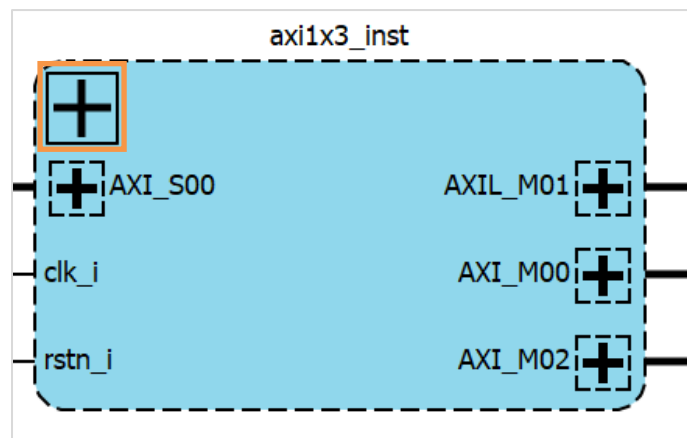
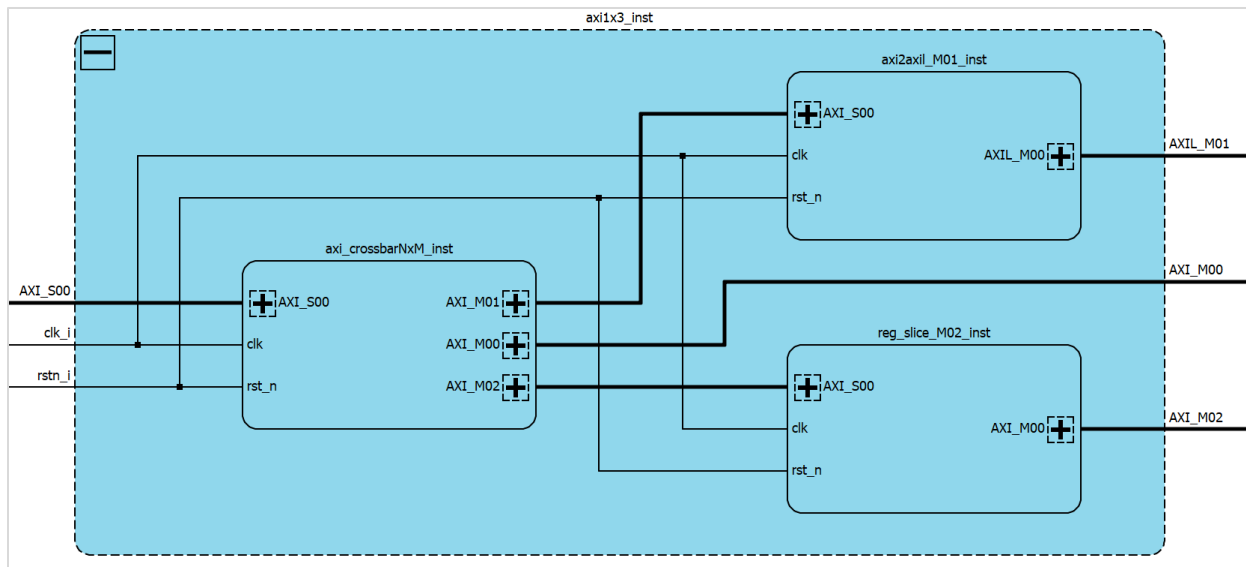

Figure 2.177. Hierarchical IP
Figure 2.178. Hierarchical IP Scope in Detail
1. Click **Expand IP** sign  on the left corner of the hierarchical IP (Figure 2.177) to show the detailed design scope of this IP (Figure 2.178).